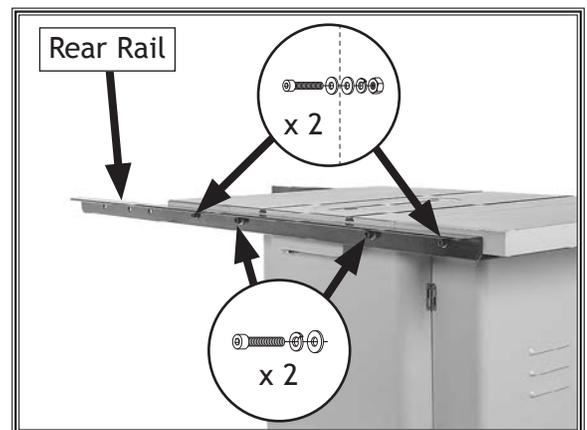

Figure 26. Rear rail installed.
- Attach rear rail to holes on main table using (2) M10-1.5 x 30 cap screws, 10mm lock washers, and 10mm flat washers, as shown in **Figure 26**. Check to make sure rear rail is parallel to table and below miter slots before completely tightening cap screws.
- Secure rear rail to extension wings with (2) M8-1.25 x 35 cap screws, (4) 8mm flat washers, (2) 8mm lock washers, and (2) M8-1.25 hex nuts (see **Figure 26**).